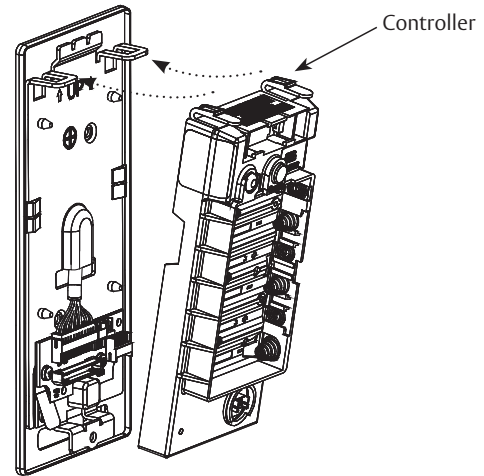

Fig. 23
- a. Insert bottom tab of controller (make sure path is clear) into slot on mounting plate. (Figure 23)